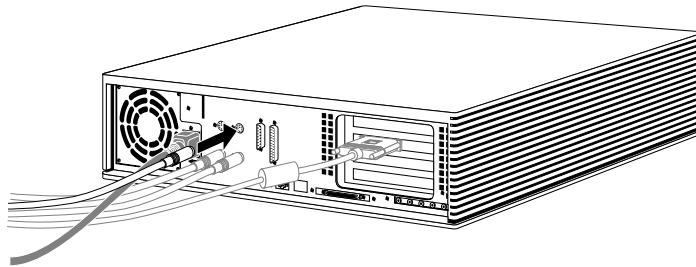

Figure 5-14 Connecting the Serial Cable to the Serial Port on the Indigo2 Workstation
- Plug the other end of the cable to the serial connector on the back of the Indigo2 chassis, as shown in Figure 5-14.